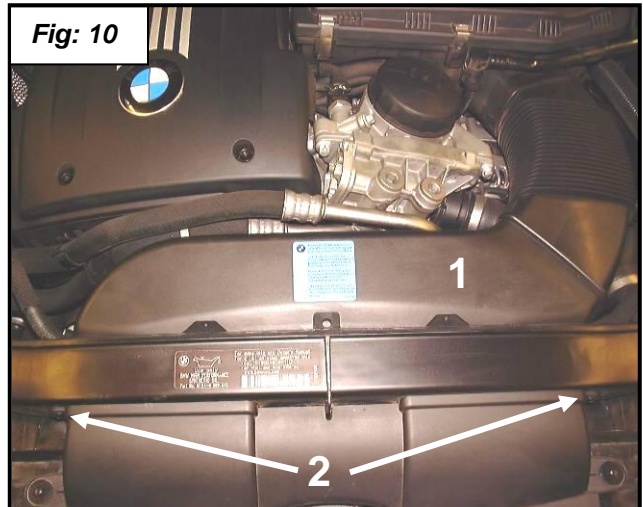

Fig: 10
15. Remove the air duct (1) that goes from the top of the radiator to the air box by removing the screws (2). Later cars may have four screws here. See **figure 10**. Cover opening in the airbox with rag.